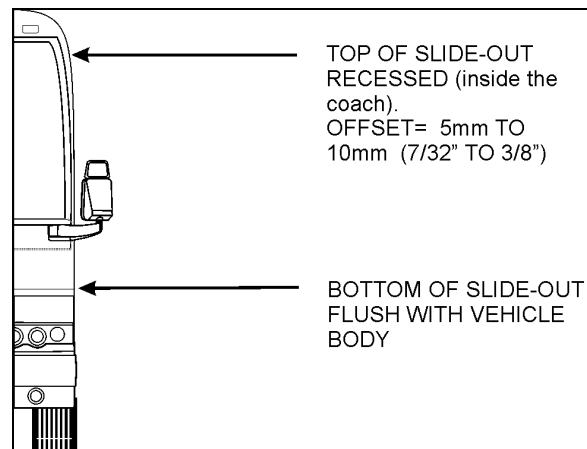

FIGURE 23: TILT ADJUSTMENT
- Using levelling screw 3, adjust the tilt in order to have the top of the slide-out recessed between 5mm and 10mm ($7/32$ " and $3/8$ ") (see FIGURE 23).